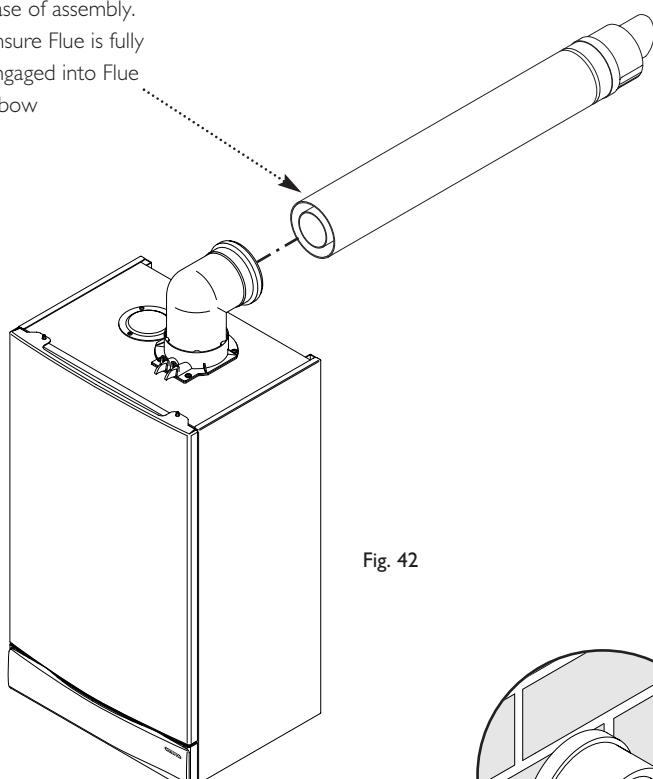

Fig. 42
9. Draw the flue back through the wall and engage it in the elbow. It may be necessary to use soap solution or similar to ease assembly of the elbow adaptor and flue (Fig. 42).